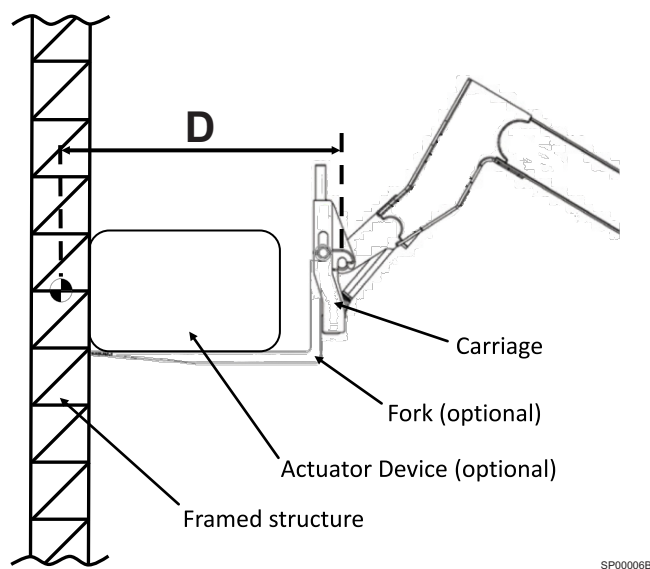

Figure 3. Fork Mounted Actuator
The forward Center of Gravity (CG) of the screen must be less than or equal to **D** (Refer to Figure 3).